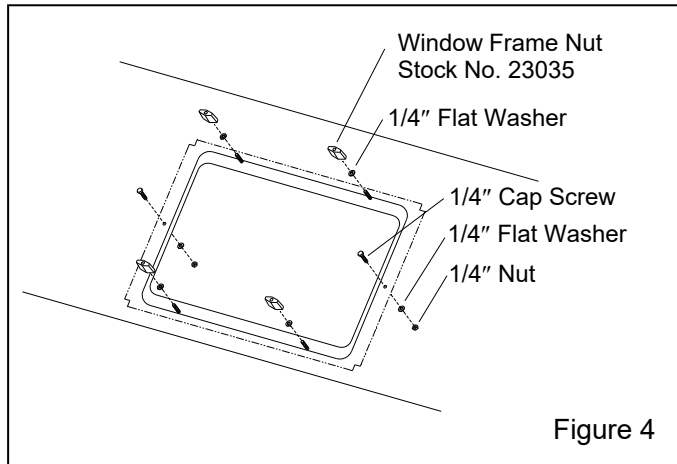

Figure 4
3.7 Hand-tighten the two cap screws, flat washers, and nuts, as shown in Figure 4.